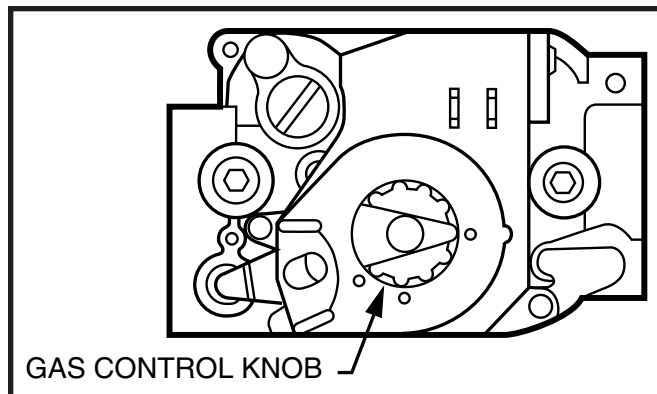
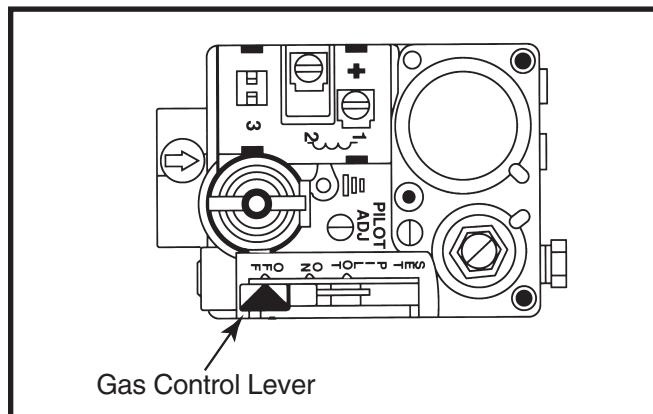

Figure 30. Direct Ignition Gas Valve - Honeywell
Figure 31. Direct Ignition Gas Valve - Robertshaw
- **Honeywell:** push in and turn the gas control knob clockwise to **OFF**. See Figure 30.
- **Robertshaw:** push the gas control lever (**Do not force!**) to the **OFF** position. See Figure 31.
4. Wait ten (10) minutes to clear out any gas. If you smell gas, **STOP!** and follow the Safety Information on page 21. If you do not smell gas, proceed to next step 5.
- **Honeywell:** push in and turn gas control knob counter-clockwise to **ON** (Figure 30).
- **Robertshaw:** push the gas control lever to the **ON** position (Figure 31). **Do not force!**
- Honeywell (Figure 30): Turn gas control knob clockwise to **OFF**, Robertshaw (Figure 31): Push the gas control lever to **OFF**.
- **Honeywell:** push in the gas control knob and turn clockwise to **OFF** (Figure 30).
- **Robertshaw:** push the gas control lever to **OFF** (Figure 31). The lever cannot be placed in the off position unless it is pushed in slightly. **DO NOT FORCE!**
- **Honeywell**: push in and turn the gas control knob clockwise to the OFF position (Figure 30).
- **Robertshaw**: push the gas control lever to the OFF position (Figure 31).